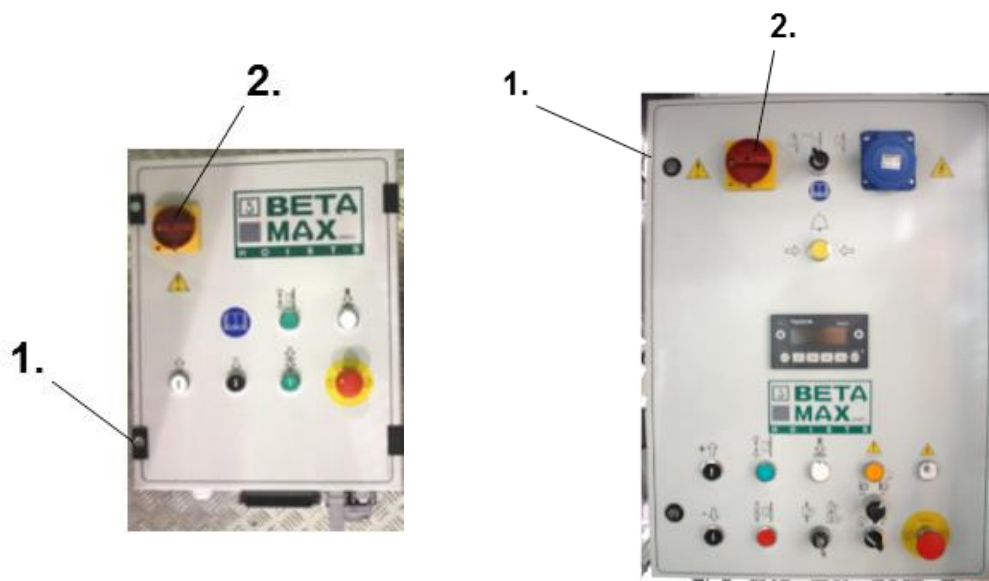

Figure 8.4
The movable guards which lock with a key or tool are applied to the panels used to close the electrical base control panel and that found onboard the machine. The locking slot (1) used for the base control panel and for the onboard control panel is shown in figure 8.4. The main switch (2) on the electrical base control and the onboard control panel can be locked in the “OFF” position.